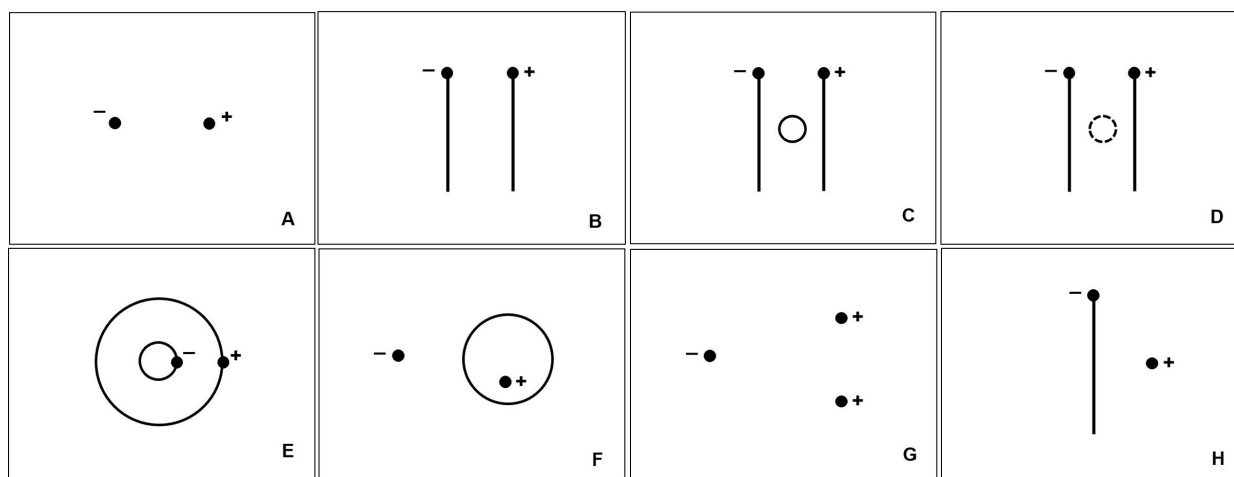

Figure 2: Electrode Patterns: The dots represent the position of pins to which the power supply leads are attached.
1. Prepare the desired patterns using the conductive pen and conductive paper. The patterns must dry completely before use or being stacked. Some suggested patterns are shown in Figure 2. The letters are for reference only and should not be drawn on the paper. The + and - are to show where to connect the electrodes and should not be drawn on the paper. The circles in patterns C and F are free floating and should not be connected to the power supply. The only pattern using three electrodes is G where an extra wire is required to connect to the second positive electrode. The primary region of interest in G is around the two positive charges. The dashed line in pattern D is a hole cut in the paper to simulate an insulator in the field. Patterns B, C, E, and F are very interesting and should not be skipped.